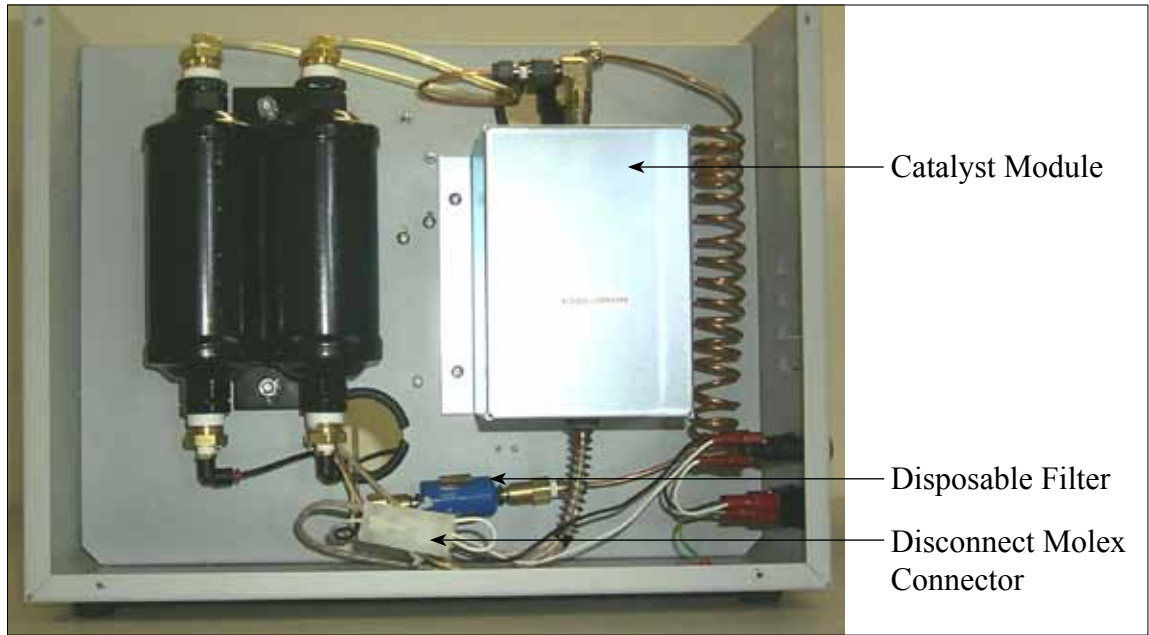

Figure 4
The tools required to change the catalyst module are as follows: Phillips-head screwdriver, 2 each 9/16" wrench, and 1/2" wrench. Follow the procedure below and use Figures 4, 5, and 6 as a guide.
4. Disconnect the Molex electrical connector below the catalyst tower (see Figure 4).